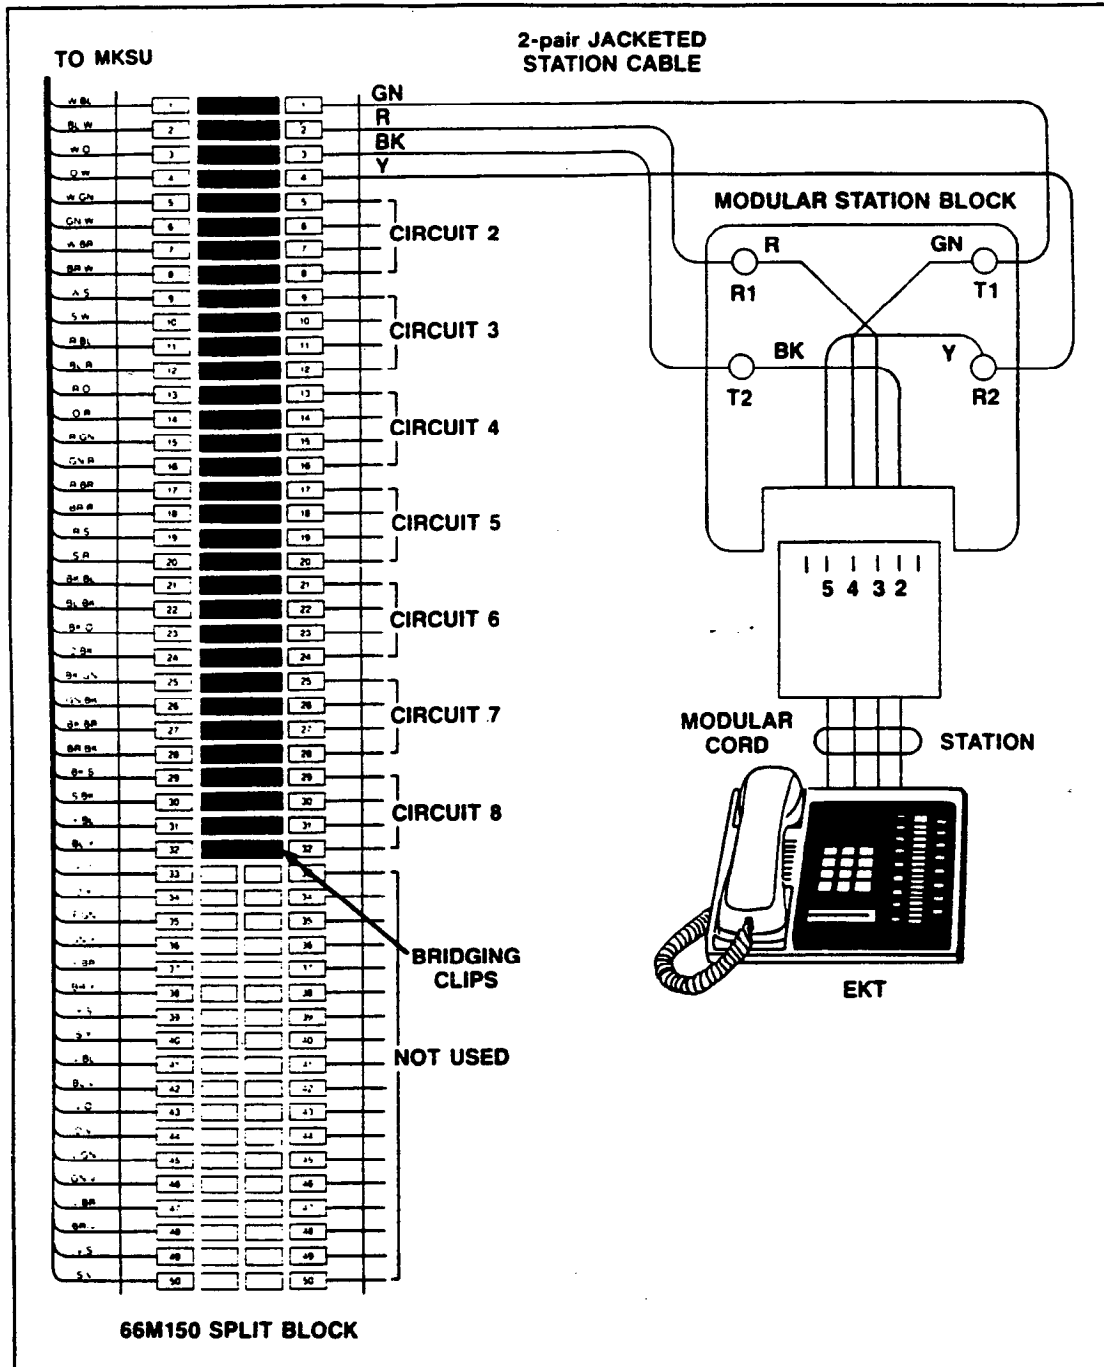

FIGURE 14—MDF/EKT WIRING
09.04 Use the industry-standard color code sequence and terminate the cable on the MDF block as shown in Figure 14.
09.11 Terminate the individual 2-pair station cables consecutively on the MDF block; attach them to the side opposite the MKSU cable. Use bridging clips to connect the MKSU cable pairs to the station cable pairs. Refer to Figure 14 for a completed MDF block.
09.15 Figure 14 shows the EKT wiring arrangement.
09.16 The various manufacturers of modular station blocks have employed different color codes to indicate the sequence of pairs in their blocks. However, the color code most commonly used is shown in Figure 14. Verify the configuration of your modular blocks before connecting the station cables.
09.21 Intercom codes are assigned permanently to specific cable appearances in **Strata S**. Make sure the station cables are connected to the proper terminals (Figure 14).